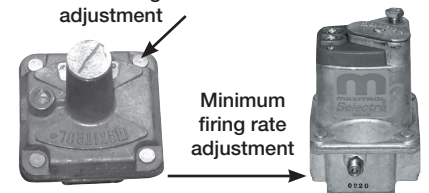

Fig. 4 Separate Regulator & Modulating Valves
- b. High Fire - Increase DG Burner demand to 100%. Use outside air and supply air temperatures shown on override menu to determine temperature rise (Temp Rise = Outside Air Supply Air - Outside Air). Adjust gas valve to achieve design temperature rise (**Fig 4 & 5**).
- c. Minimum Fire - Set DG Burner demand to 0%. View burner flame through factory sight glass. Adjust minimum firing rate (**Fig 4 & 5**) to achieve desired minimum temperature rise while maintaining a small ribbon of continuous blue flame across the burner.